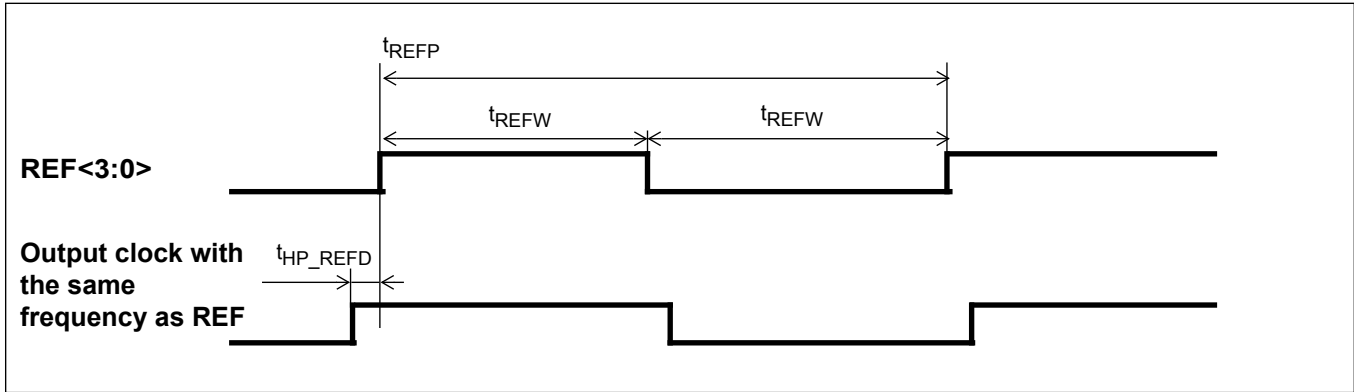

Figure 31 - Input To Output Timing for hputclk0
**AC Electrical Characteristics\* - Inputs (see Figure 31).**
**AC Electrical Characteristics\* - Input To Output Timing (see Figure 31)**